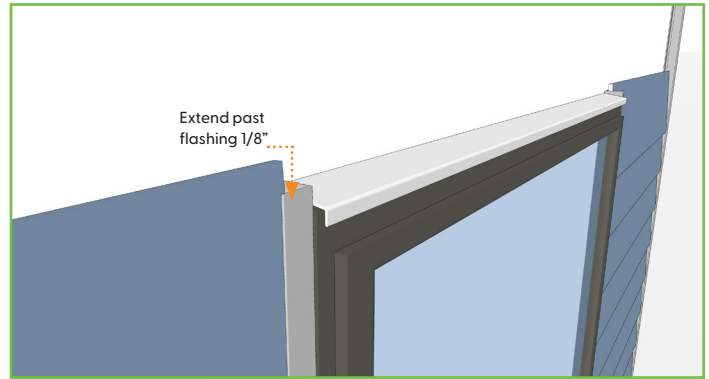

Figure 24.3
- 7.** Extend EZ.40 J trim up past the edge of the window flashing 1/8" (Figure 24.3).